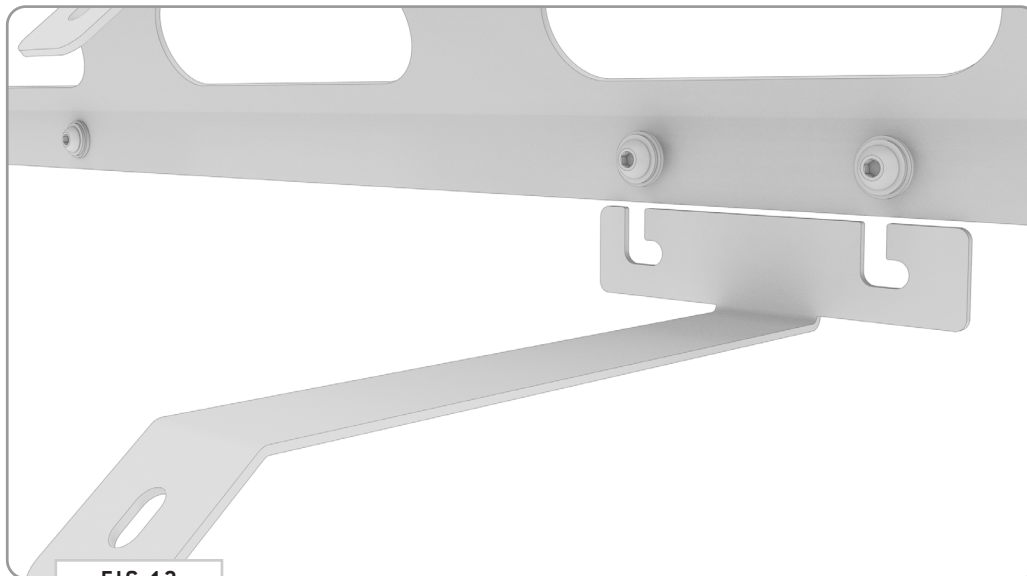

FIG 12
**4.3 Center Fairing Bracket:** Slide in the **Center Fairing Bracket** into place along the two center-most **1/4-20" Button Head Screws** of the **Crossbar Fairing Bracket** as shown in **FIG 12**.